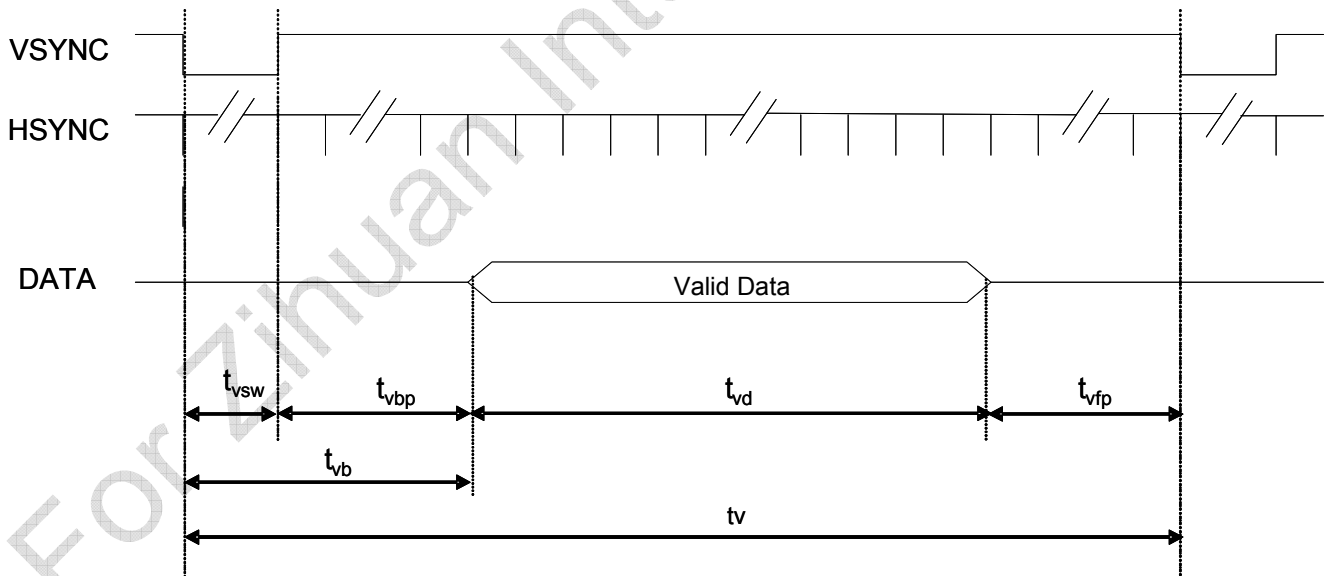
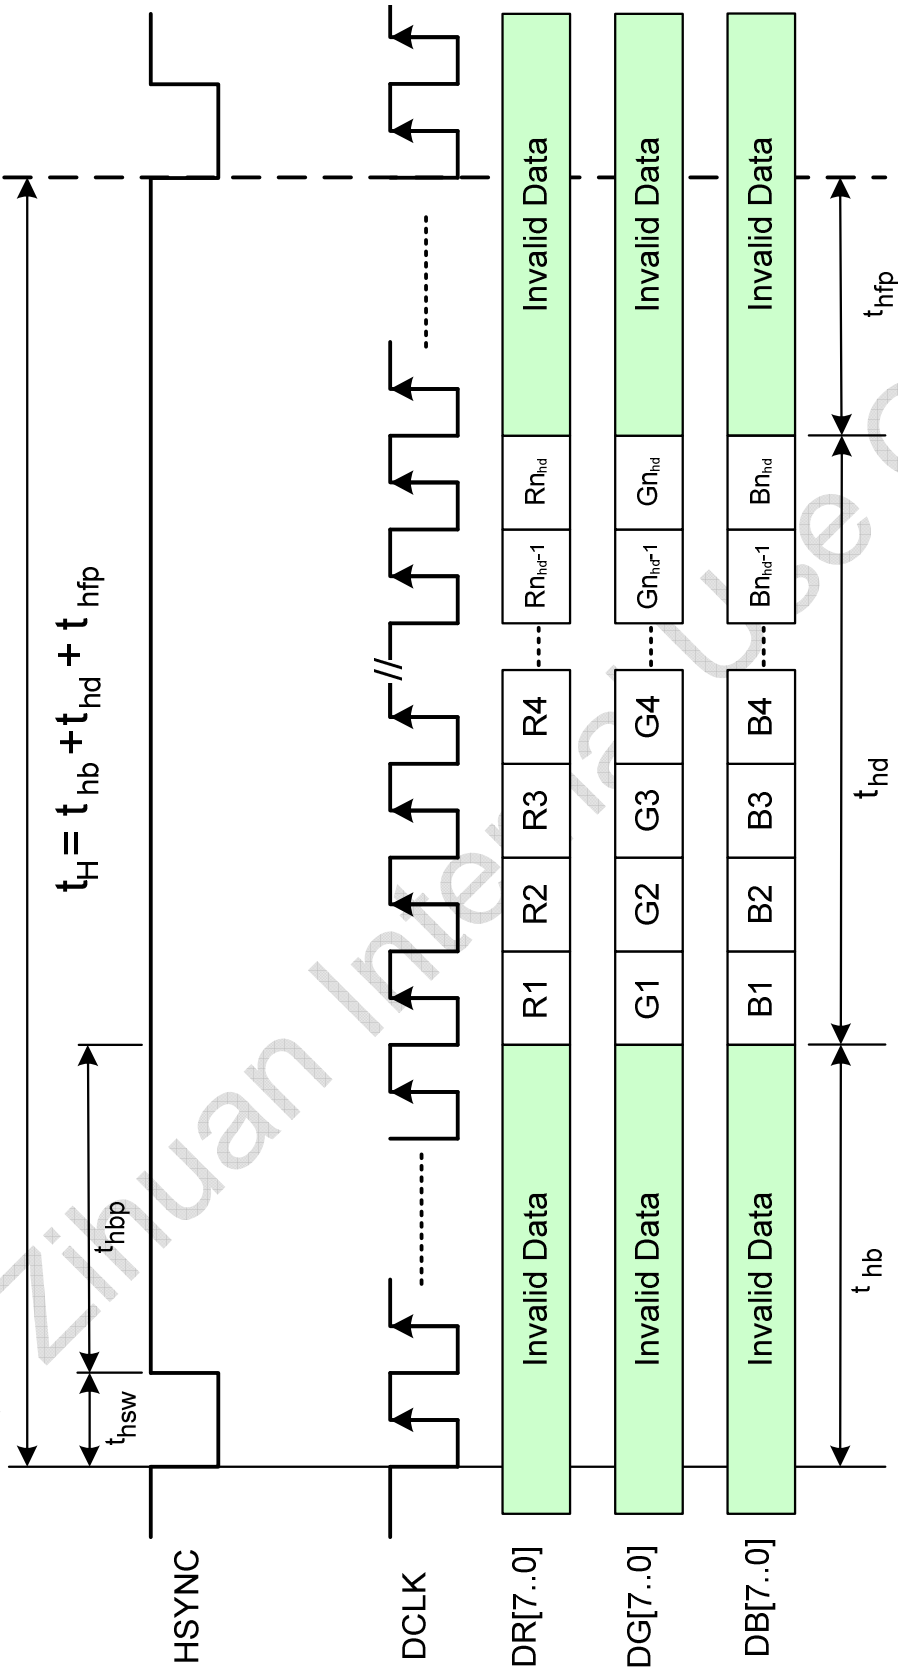

Fig.1 Parallel RGB Input Vertical Timing Chart
Fig.2 Parallel RGB Input Horizontal Timing Chart
5.1 Parallel RGB timing (Refer to Fig.1 Fig.2)